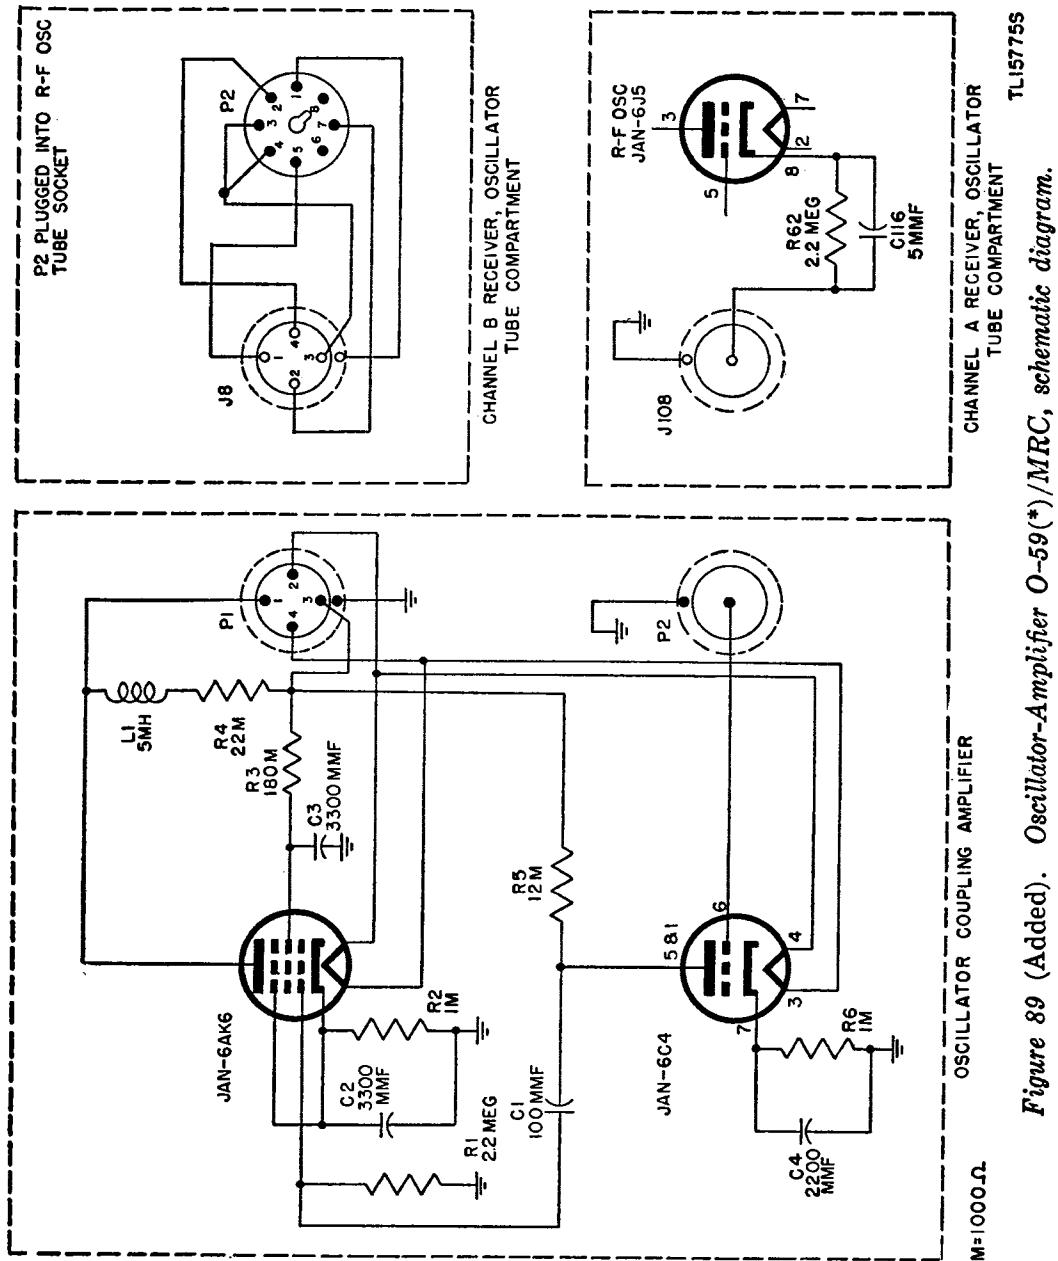

Figure 89 (Added). Oscillator-Amplifier O-59(*)/MRC, schematic diagram.
- c. Electrically, the amplifier consists of a type 6C4 tube resistance, coupled to a type 6AK6 tube by plate resistor R5 (12,000 ohms), blocking capacitor C1 (100 $\mu\mu$ f), and grid-bias resistor R1 (2.2 meg-ohms). The grid of the type 6C4 tube is connected directly to plug P2 and its cathode is biased by resistor R6 (1,000 ohms) and bypassed to ground by capacitor C4 (2,200 $\mu\mu$ f) (fig. 89).